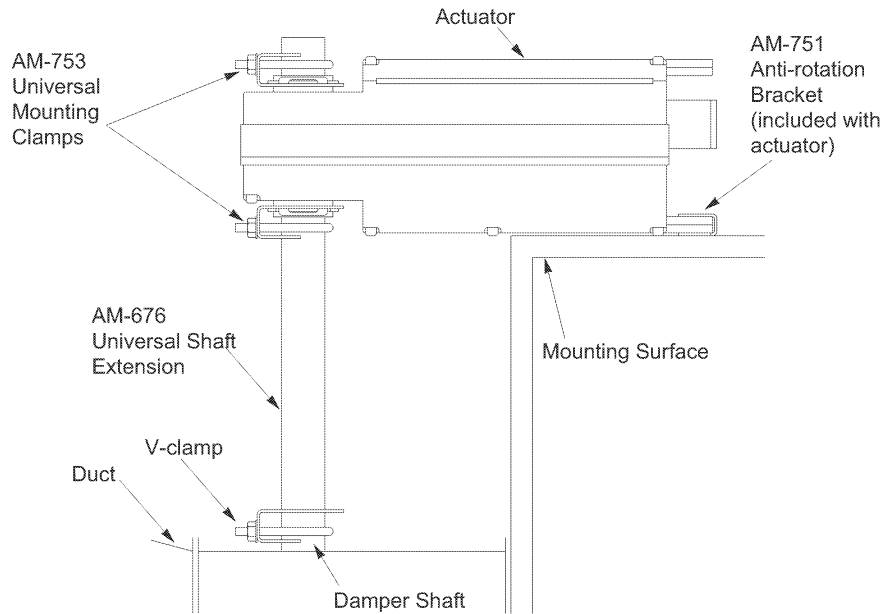

Figure-13 Installation of Universal Shaft Extension.
See Figure-13 for installation of actuator using the AM-676 Universal Shaft Extension. Installation requires AM-676 Universal Shaft Extension and AM-753 Universal Mounting Clamps for 3/4" to 1" (19 to 25 mm) shafts, these items must be ordered separately.
6. Assemble the damper actuator onto the universal shaft extension, allowing the extension to slide through the actuator's universal mounting clamps. Make sure the actuator is 90° (perpendicular) to the damper shaft. Then, hand tighten the nuts on both of the actuator's universal mounting clamps. See Figure-13.
8. Position the actuator and bracket in the desired final mounting position on the mounting surface and drill mounting holes. See Figure-13.
15. Verify that the damper is in its full-closed position and actuator at 90° (perpendicular) to the damper shaft. See Figure-13.